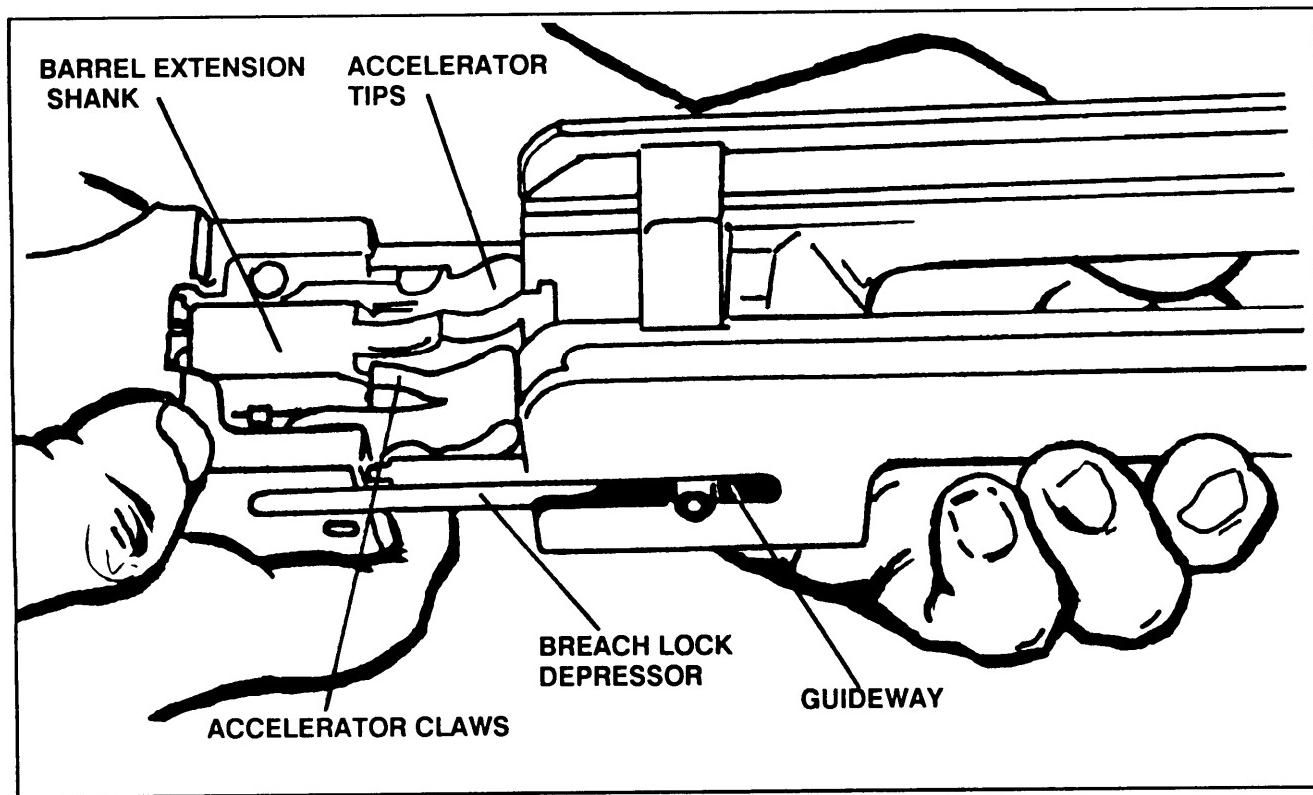

Figure 2-17. Joining the barrel extension group and barrel buffer group.
b. Barrel Buffer Group and Barrel Extension Group. To join the two groups together, hold the barrel buffer group in the right hand, with the index finger supporting the accelerator. Join the notch on the shank of the barrel extension group with the cross-groove in the pistol rod of the barrel buffer assembly. At the same time, align the breech lock depressors with their guideways in the sides of the barrel extension, ensuring that the tips of the accelerator are against the rear end of the barrel extension (claws against the shank) (Figure 2-17). Push the groups together. As the accelerator rotates to the rear, press down on its tips to ensure positive locking of groups. Place the groups in the receiver, and push them forward until the barrel buffer body spring lock snaps into position. When the parts are properly locked in place, the barrel buffer tube should protrude about 1 1/8 inches from the rear of the barrel buffer body group.